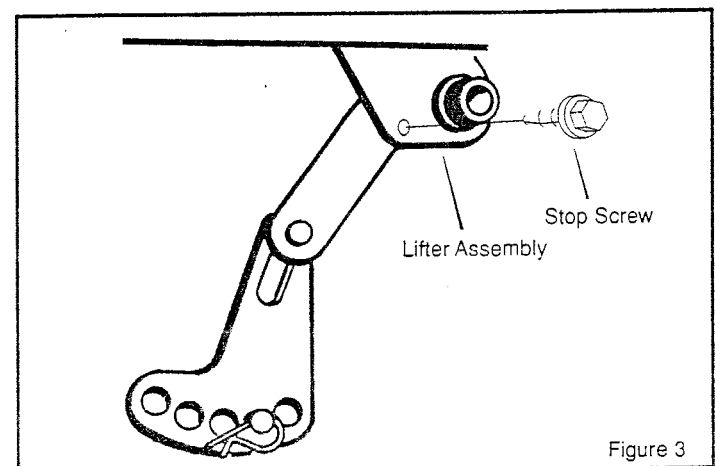

Figure 3
6. For shipment, some models have a stop screw in the lifter assembly (Figure 3). The stop screw stops the mower housing from moving to the lowest position. For a low cut, remove and discard the stop screw.